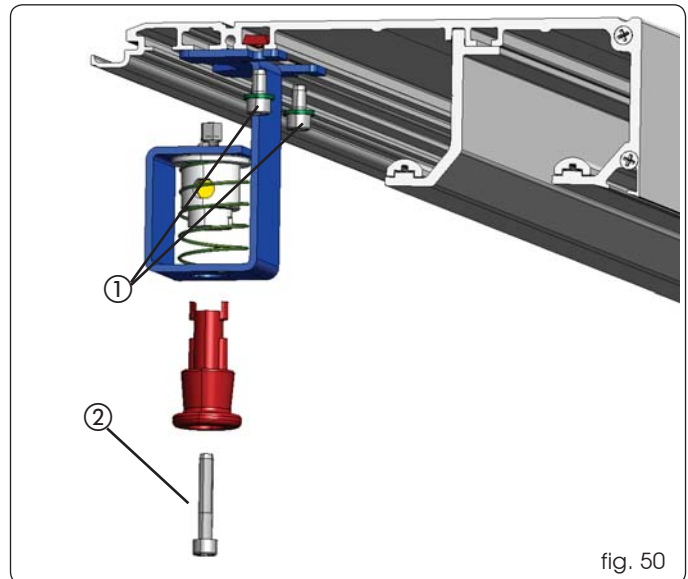

fig. 50
- Assemble the release knob on the side bracket as shown in fig. 50, after having inserted the two plates in the profile (fig. 50 ref. ①)
**if the release knob is present, to open the housing, dismantle the knob, unfastening the screw in fig.50 ref. ②**